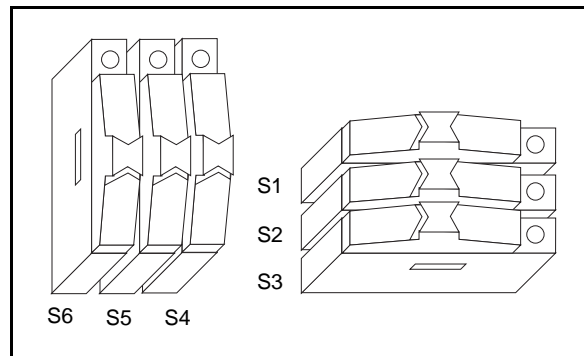

Figure 1. Disabled Temperature Sensor Switch Configuration with Accessory Grounds Connected
To accommodate thermocouples, the SCB-100 100-pin shielded connector block has a temperature sensor for cold-junction compensation. To power the temperature sensor, switches S1, S2, and S3 must be on as shown in Figures 1, 2, and 3. Notice that this also causes the signal accessory power LED to be on. You can configure the temperature sensor in the following three ways:
- To disable the cold-junction compensation temperature sensor so all analog channels are available, switches S4, S5, and S6 should be in the down position as shown in Figure 1.